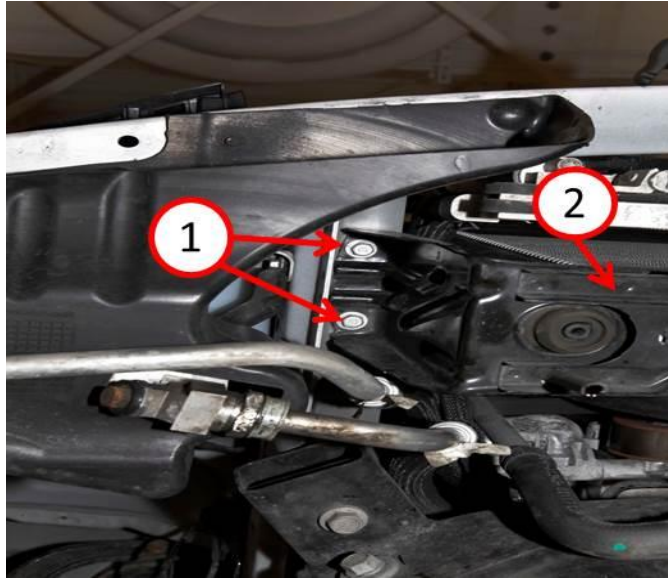

Fig. 15 Lower Radiator Support Bolts
27. Remove the 4 bolts (1) for the lower radiator support (2) (Fig. 15).
33. Install the 4 bolts securing the lower radiator support (Fig. 15). Tighten the bolts to 16 N·m (141 in. lbs.).